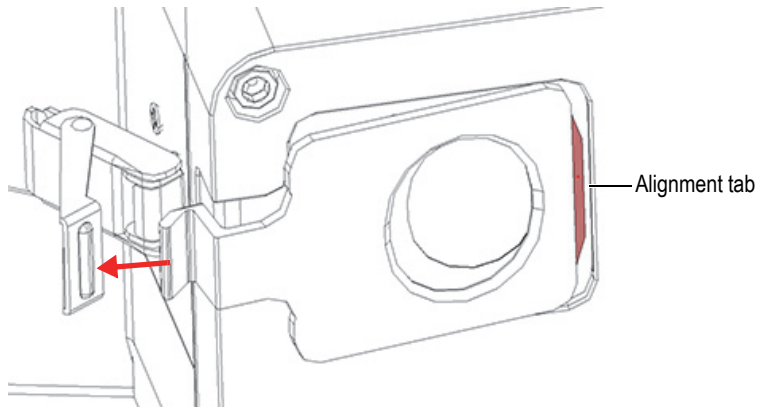

Figure 4-4 Faceplate alignment tab fully visible
5. Pull the faceplate slightly to the left until the alignment tab is fully visible (Figure 4-4 on page 63), then lift the faceplate away from the instrument.